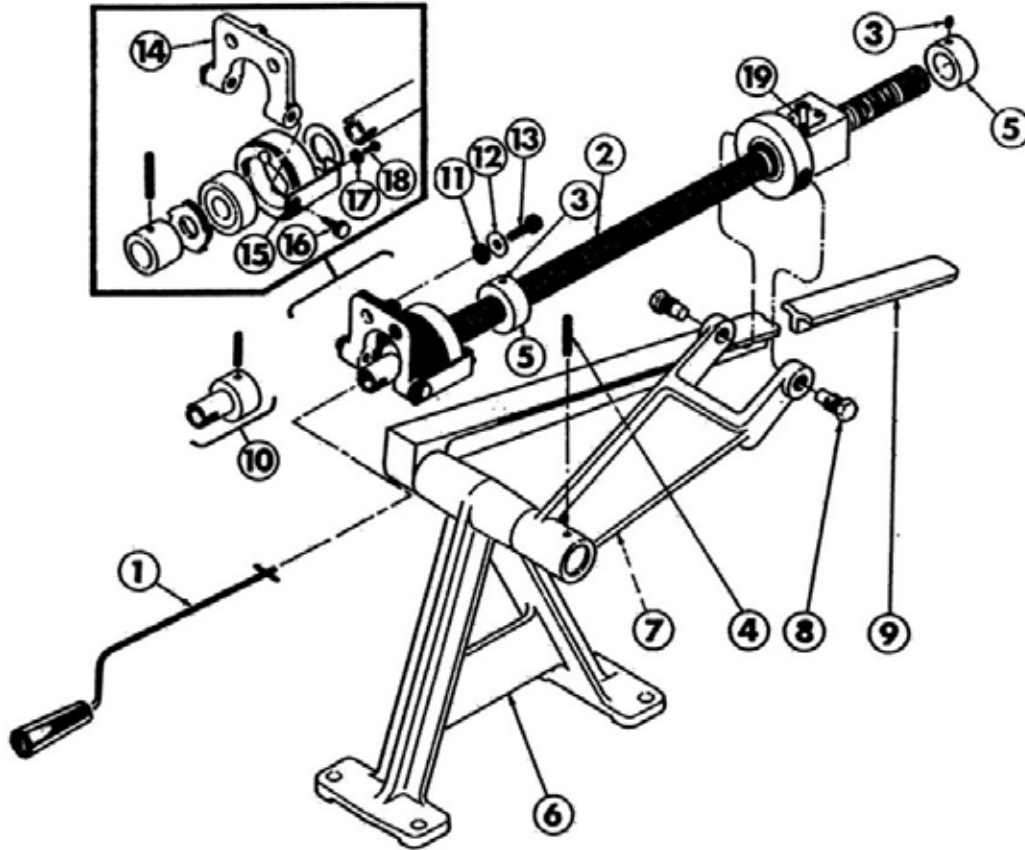

Figure 5 Tilting Mechanism for 25- and 40-Gallon Kettles
2. Slide the ball nut onto the free end of the screw, round nut end first, as shown in Figure 5 on page 12.
3. Replace the stop collar (5) , Figure 5 on page 12.
The Saginaw Screw assembly must be removed from the kettle to complete kit installation, (*see saginaw screw assembly removal on page 7*). The collar (*next to the ratchet wheel, Fig. 5 on page 12*) is removed by driving out the roll pin which secures it to the screw shaft. The replacement sleeve is slid over the faulty shaft end and fastened with a roll pin. The repair is completed by re-mounting the Saginaw Screw assembly.